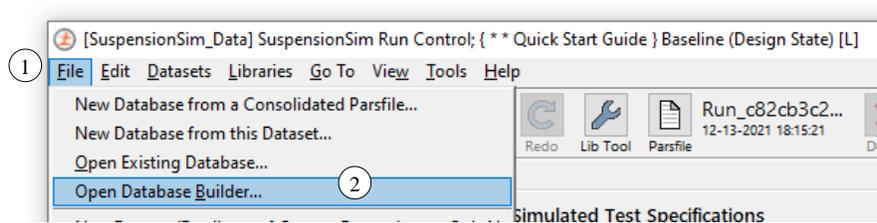

Figure 3. Using the File menu command Open Database Builder.
You can access the Database Builder any time after the initial installation of SuspensionSim. It can be viewed whenever the **Select Recent Database** window appears. It can also be brought up from within SuspensionSim using the File menu ① command Open Database Builder ②, Figure 3.